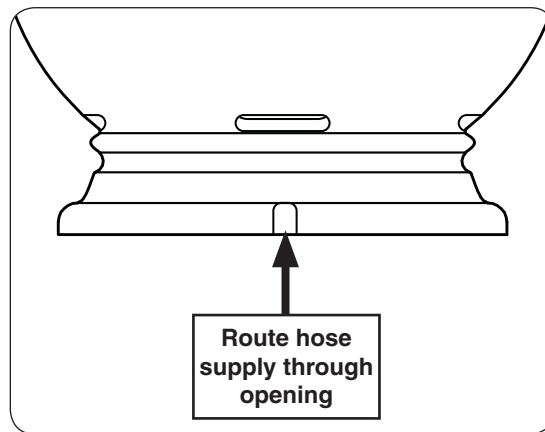

Fig. 2-1 Hose feed location
**Note:** The notch (bottom opening) at floor of the base is to be facing toward the rear or where the gas hose will be feeding from (see Fig. 2-1).
1. Route the regulator hose assembly (that was previously connected to the fire unit valve assembly) to the tank table and through the bottom opening (see Fig. 2-1).